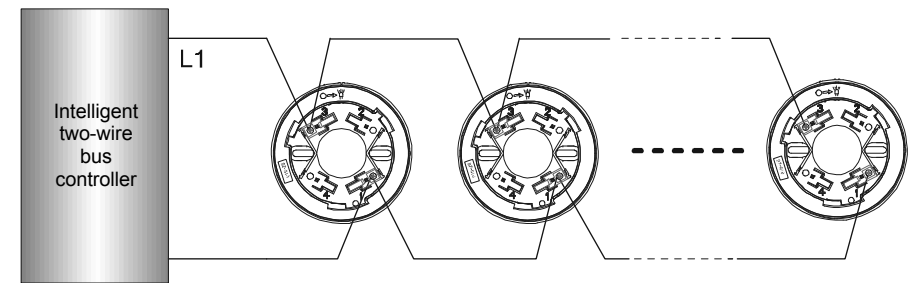

Fig. 3
2. Wiring mode: The detector is connected into a compatible fire alarm controller via a two-wire bus system through non-polarity connection mode and the L1 and L2 of the two-wire bus system are connected with the terminals 1 and 3 of the matched base. The schematic diagram for connection of multiple detectors and a controller is shown in Fig. 3.